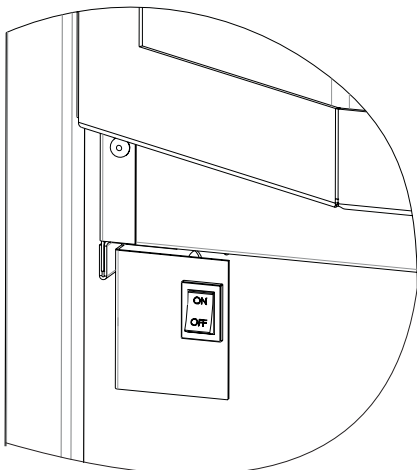

Figure 71
- B. Turn on the main electrical power to the fireplace and turn the main burner switch to the ON position. See Figure 71. Verify power is on by checking if there is power to the circuit board. If the unit has power, the power light will be illuminated.